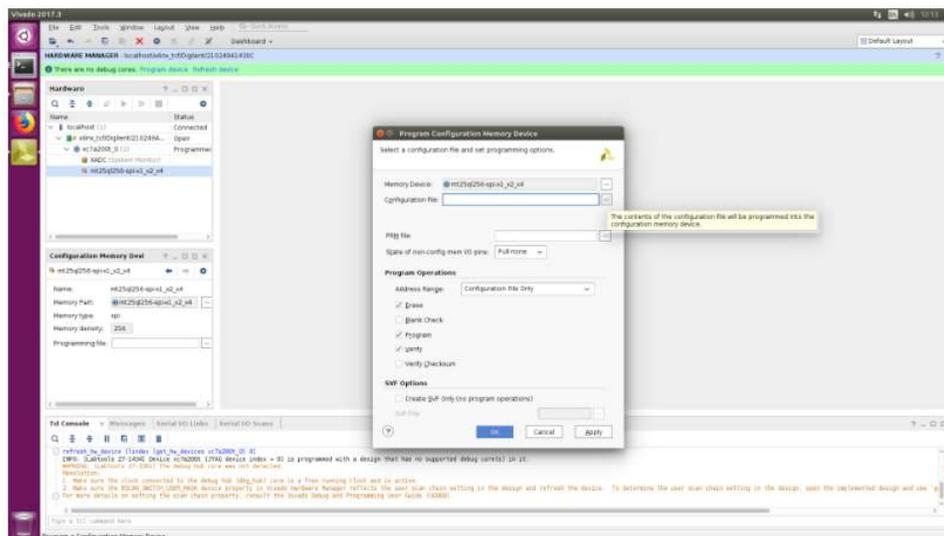
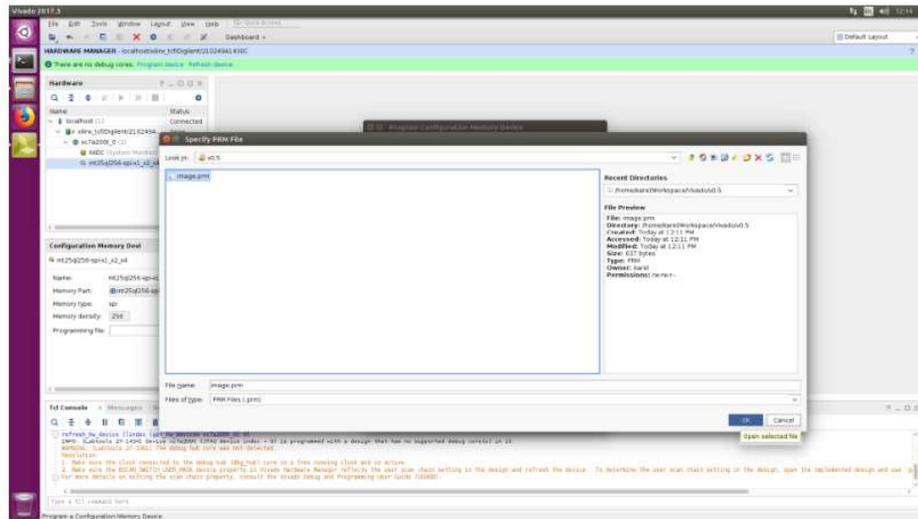

Figure 55: Program configuration memory device 2 [sc20]
Figure 57: Specify PRM file [sc23]
10. The pop-up “Program Configuration Memory Device” opens. Click the “...” button on the right-hand side of the “Configuration file” line on the pop-up to open the explorer window (Figure 55, STMA-69246);
12. The pop-up “Program Configuration Memory Device” re-appears, Click the “...” button on the right-hand side of the “PRM file” line on the pop-up (Figure 55, STMA-69246) to open the explorer window (Figure 57, STMA-69242) where you can save the .prm file on the path chosen in step 11 (in this example “home/karel/Workspace/Vivado/v0.5/image.prm”);